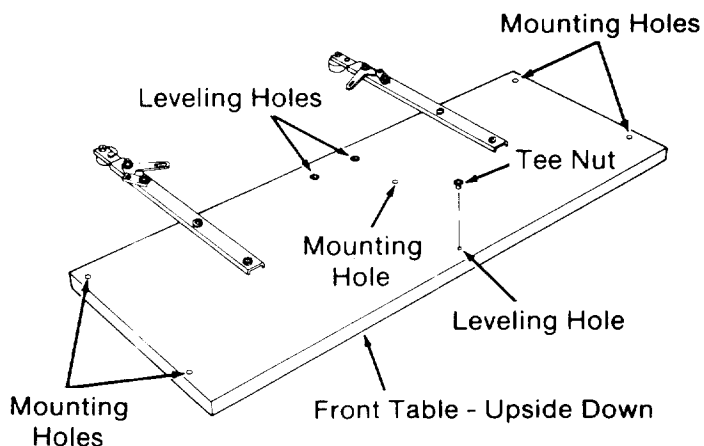

Fig. 37 - Leveling and Mounting Holes
1. Place a *tee nut* over each of the three *leveling holes* and hammer them into place. (Figure 37)